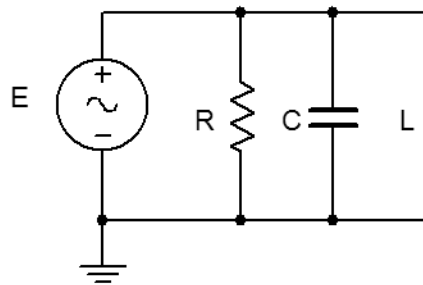

Figure 7.3
9. Using Figure 7.3 with both the 10 nF capacitor and 10 mH inductor (and a third sense resistor), repeat steps 1 through 7 in like manner, using Tables 7.5 and 7.6. Note that it will not be possible to see all four waveforms simultaneously in step 5 if a **two channel oscilloscope** is being used. For a **four channel oscilloscope**, place a probe across each of the three sense resistors.